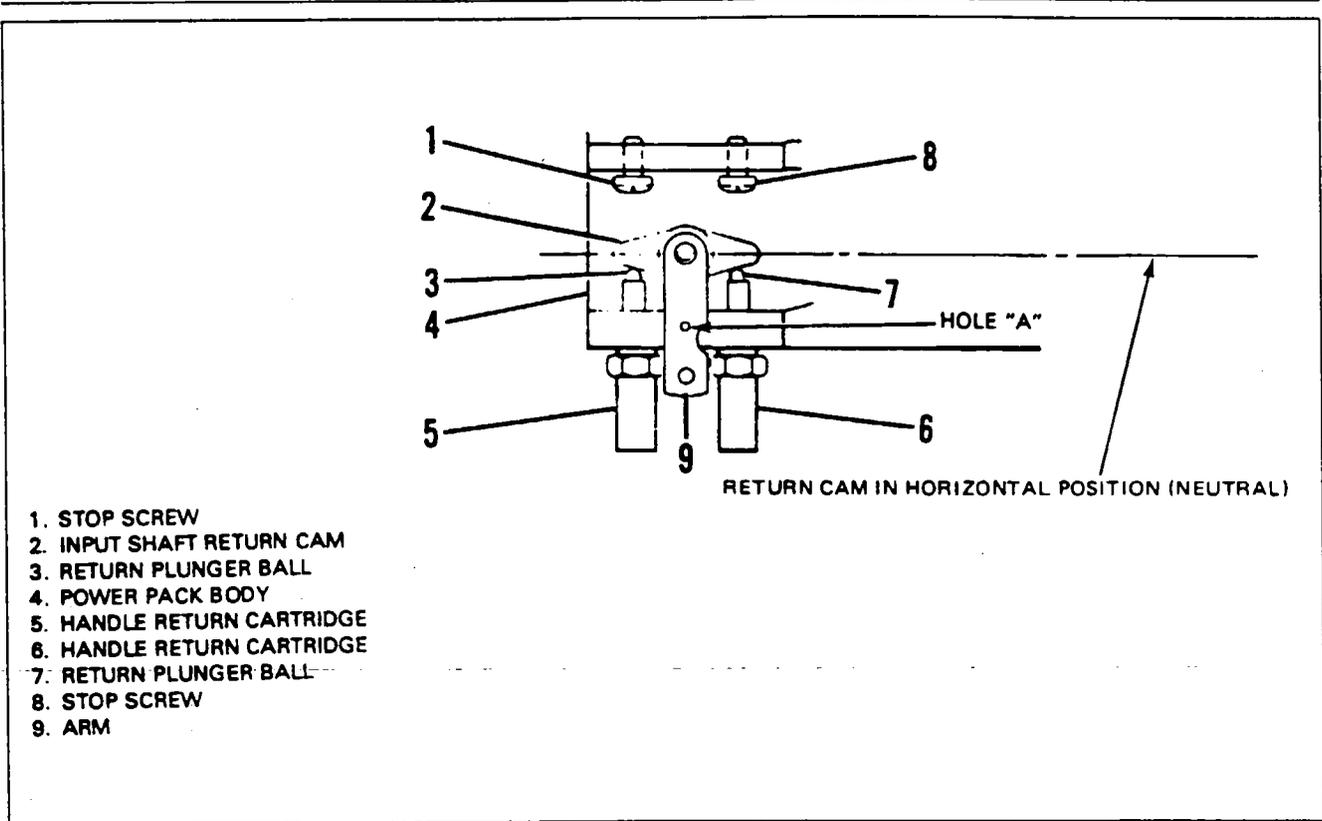

Figure 29-12. Handle-Release Adjustment
**ADJUSTMENT OF HANDLE-RELEASE MECHANISM. (Refer to Figure 29-12.)**
4. Hold the input shaft return cam in the horizontal (neutral) position by inserting a .125 dia. drill or punch through hole in the arm and into rigging hole in body. Rigging hole is noted as hole "A" in Figure 29-12. Adjust handle return cartridges in such a manner that their return plunger balls touch the surface of the input shaft return cam slightly.